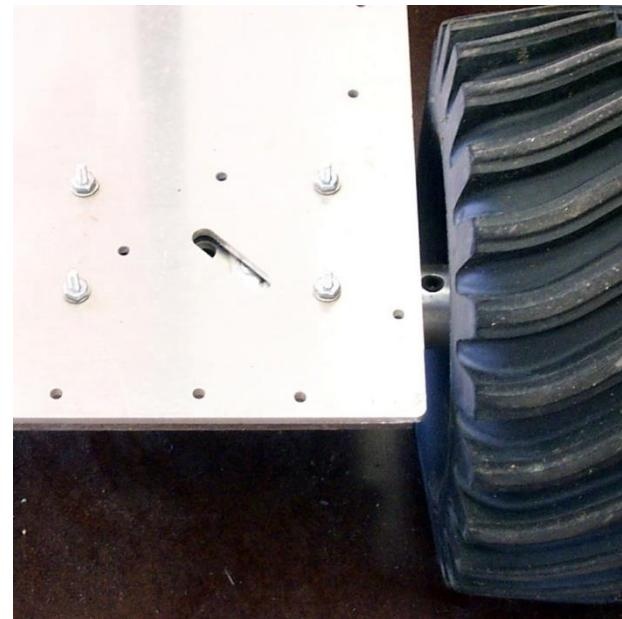

Figure 15: ATR Motor and Wheel Attachment
3. To attach a ATR wheel refer to Figure 15. Fasten the motor housing on with washers and #4 nuts.